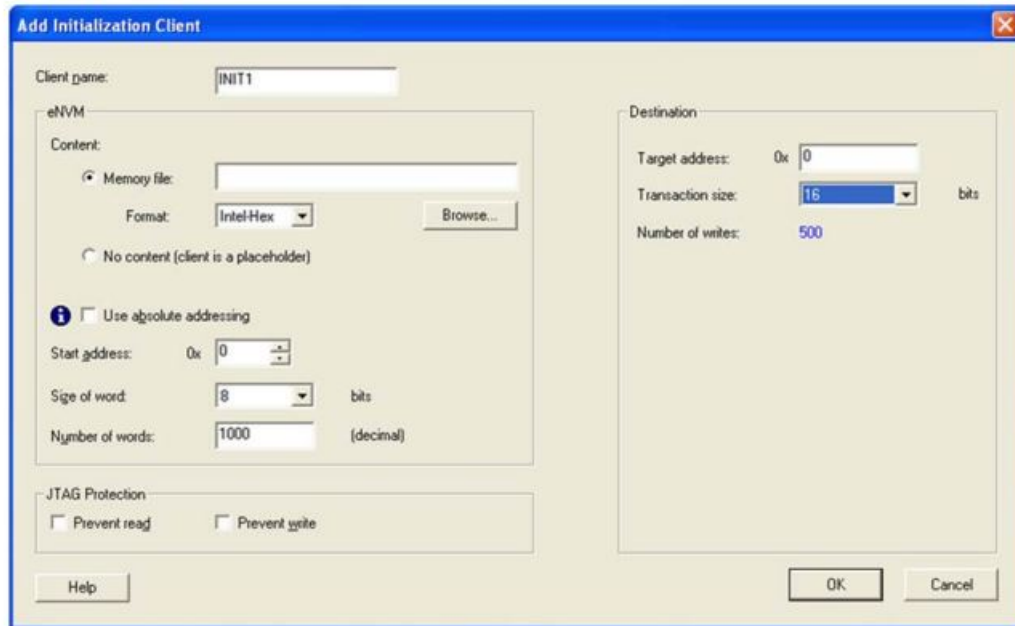

Figure 1-3 • Add Initialization Client in eNVM
- **Number of writes** – The number of APB transfers when the data is copied from the eNVM memory region to the target destination by the Actel system boot code. This field is automatically computed by the tool based on the eNVM content information (size and number of words) and the destination transaction size (as shown in Figure 1-3).